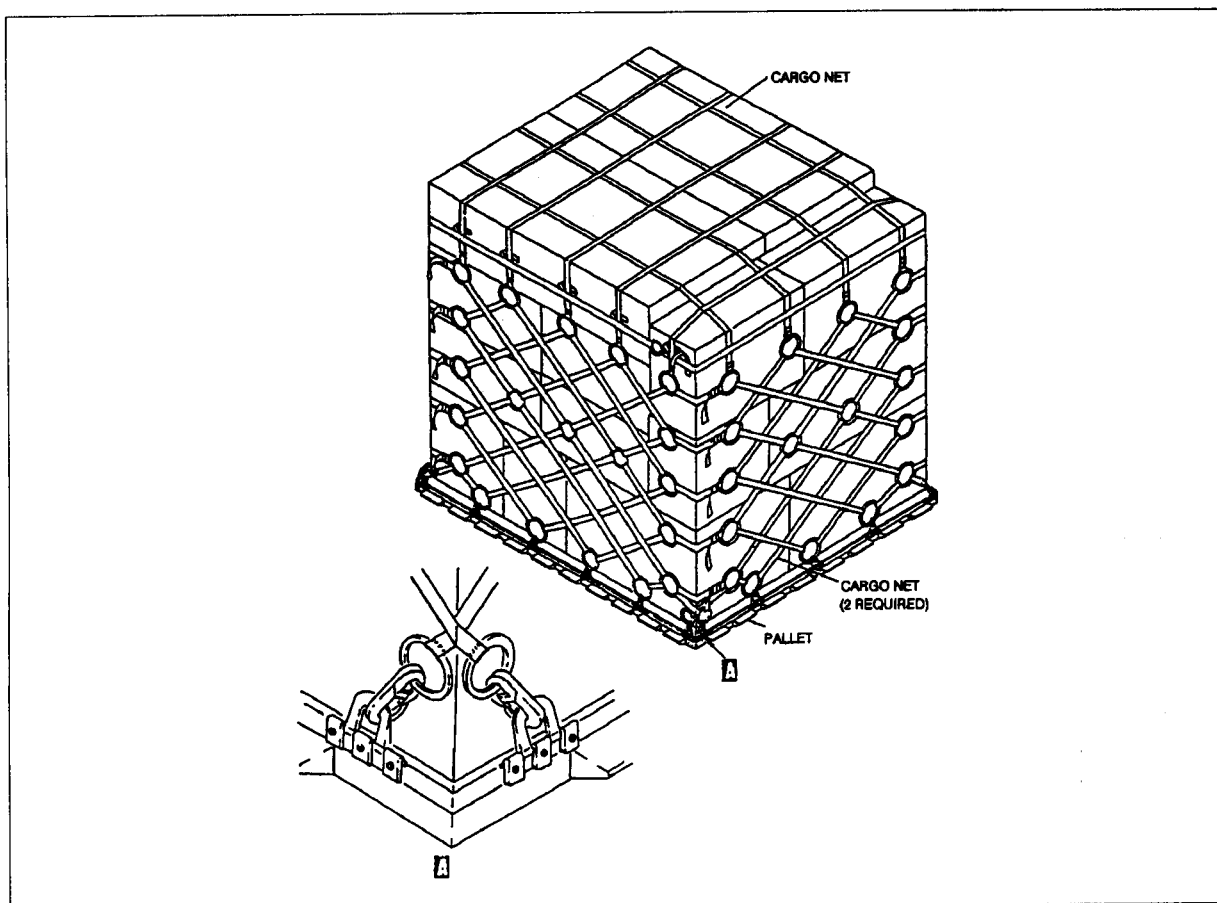

FIGURE 4-12. Typical Net Attachment.
b. Top Net. Place the top net over the cargo making sure that it is centered. The long side of the top net goes with the long side of the side net. Hook the top net into the side nets by using the O-rings. Always use the same row of rings on the side nets to ensure that the top net pulls evenly. When the top net is hooked in, pull evenly on all straps to tighten the top net. Two people should do this to ensure that the net stays even. When all the straps are tightened, including the side net straps, tuck the loose ends of the straps into the netting to prevent snagging on something in the aircraft (Figure 4-12). The most prevalent reason cargo is refused or delayed from loading on an aircraft is poor pallet buildup or